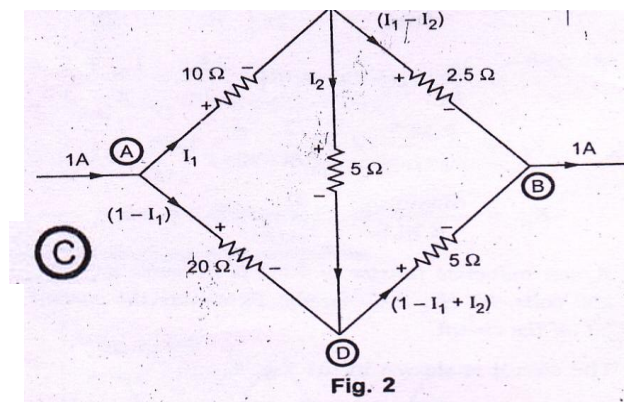

Fig. 2
s.: The current distribution in various branches is shown in the Fig. 2.